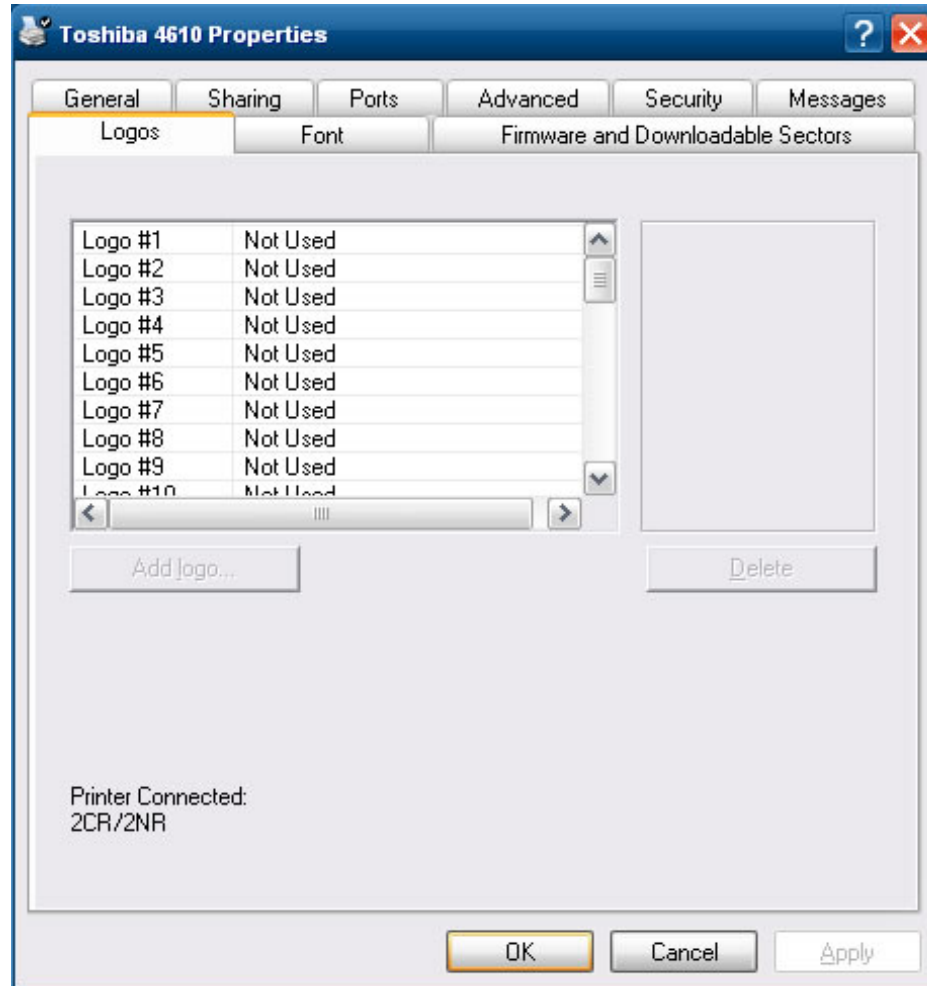

Figure 41. Logos tab
3. Click the Logos tab (see Figure 41).